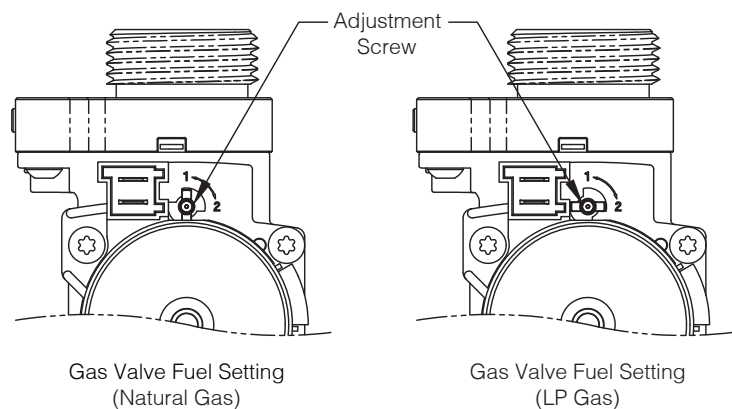

Figure 15-3: Gas valve detail
- A. Use 2.5 mm hex wrench to adjust gas valve setting from "1" to "2" (Figure 15-3).